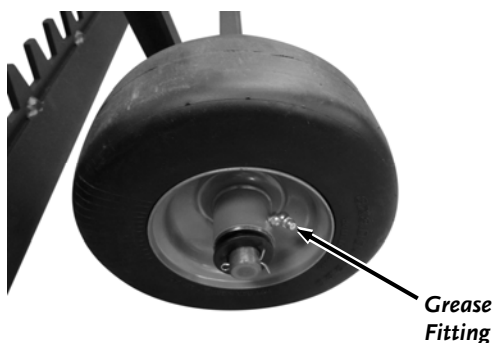

Figure 47
1. Clean the Grease Fitting with a clean Rag (**Figure 47**).